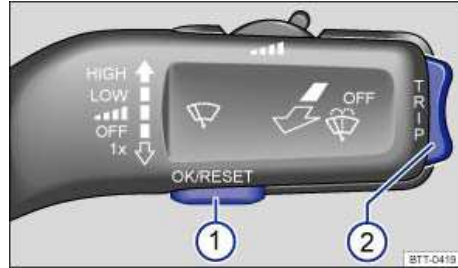

Fig. 12 On the windshield wiper control stalk: control buttons 1 and 2 on the windshield wiper lever.
The instrument cluster displays are controlled by the **OK/RESET** button and the **TRIP** rocker switch on the windshield wiper lever ⇒ fig. 12, (1) and (2).